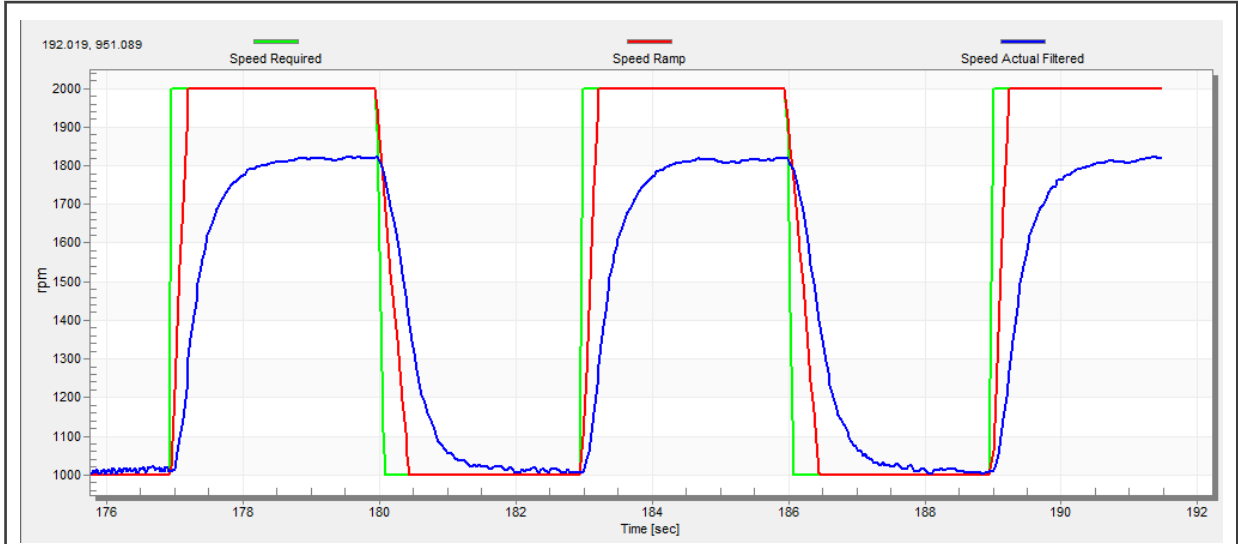

Figure 43. Speed controller response—SL_Ki value is low, Speed Ramp is not achieved
The motor speed control loop is a first-order function with a mechanical time constant that depends on the motor inertia and friction. If the mechanical constant is available, the PI controller constants can be tuned using the loop bandwidth and attenuation. Otherwise, the manual tuning of the P and I portions of the speed controllers is available to obtain the required speed response (see the example response in Figure 43). There are dozens of approaches to tune the PI controller constants. The following steps provide an approach to set and tune the speed PI controller for a PM synchronous motor:
- The “SL_Ki” value is low and the “Speed Actual Filtered” does not achieve the “Speed Ramp” (see Figure 43).